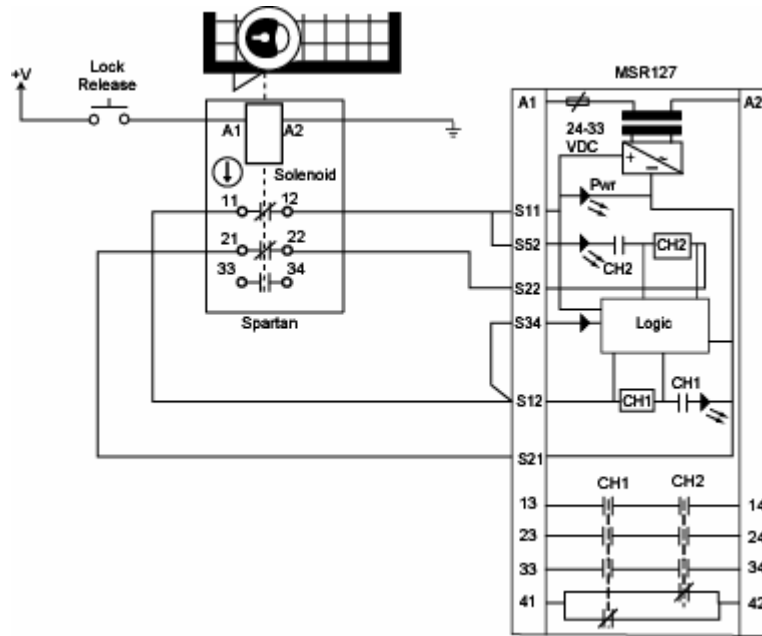

Figure 16. One Spartan
- g. The input circuit arrangement shown in Figures 16 meets the requirements of EN954-1 Category 4.